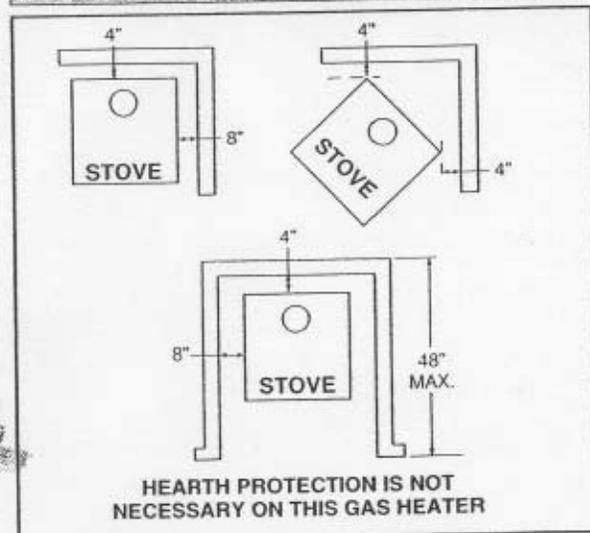

Figure 1
**1. Positioning the appliance.** Position the appliance in its desired location. Maintain all clearances found in Figure 1 on page 8.